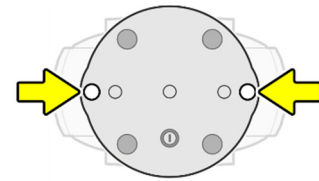

Figure 6. Safety cable attachment
4. See Figure 6. Attach a safety cable to one of the safety cable attachment points in the fixture base and loop it around the truss chord or bar so that it will hold the fixture if the rigging clamp fails. Take up as much slack as possible in the safety cable (by looping it more than once around the truss, for example).
If necessary to prevent the fixture from moving if the surface is slippery or falling, pass a ratchet strap, webbing or other bracing strap through the safety cable attachment points (see Figure 6) and fasten it to secure anchoring points.